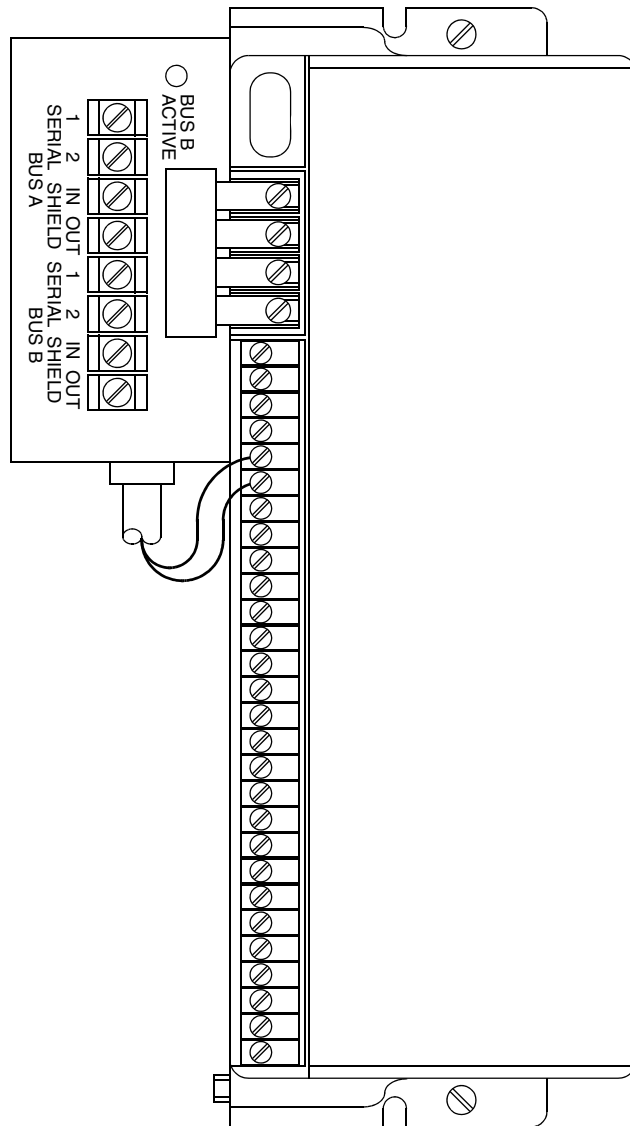

Figure 18. BSM Attached to a TRIO Block
3. Insert the BSM connectors under the terminals, Figure 18. Do not tighten the terminal screws until the bus stub wiring is complete.